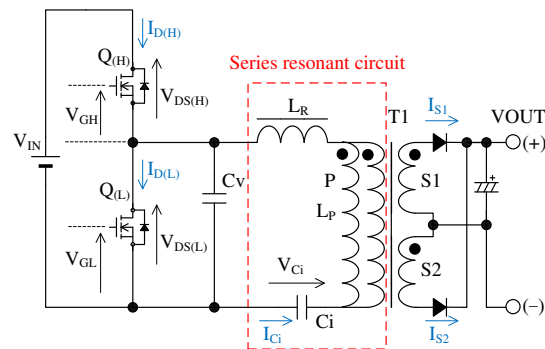
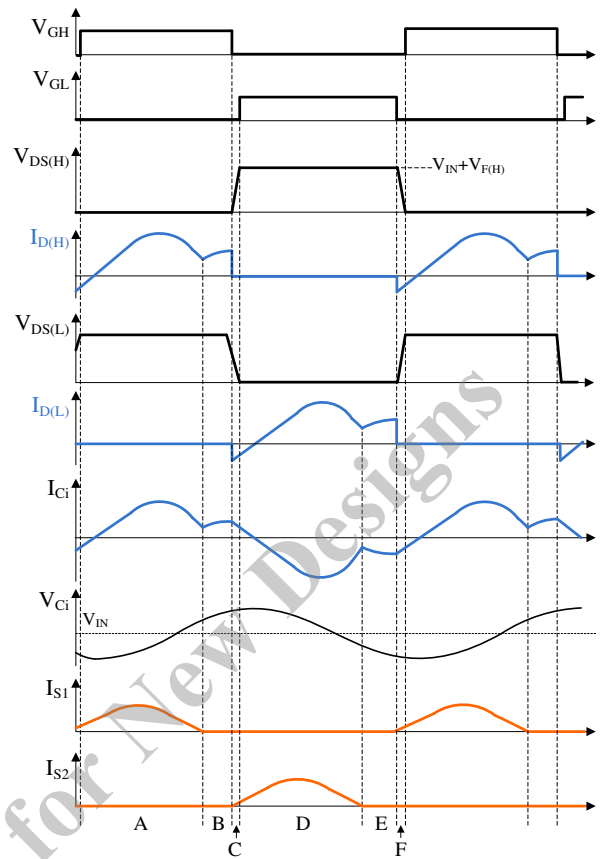

Figure 8-3. Current Resonant Power Supply Circuit
Figure 8-4. The Basic Operation Waveforms of Current Resonant Power Supply
Figure 8-3 shows the circuit of a current resonant power supply. The basic configuration of the current resonant power supply is a half-bridge converter. The switching device Q(H) and Q(L) are connected in series with VIN. The series resonant circuit and the voltage resonant capacitor Cv are connected in parallel with Q(L). The series resonant circuit is comprised of a resonant inductor LR, a primary winding P of a transformer T1 and a current resonant capacitor Ci.
In the resonant transformer T1, the coupling between primary winding and secondary winding is designed to be poor so that the leakage inductance increases. By using it as LR, the series resonant circuit can be down sized. The dotted mark in T1 shows the winding polarity, the secondary windings S1 and S2 are connected so that the polarities are set to the same position shown in Figure 8-3, and the winding numbers of each other are equal.
Figure 8-4 shows the basic operation waveform of current resonant power supply (see Figure 8-3 about the symbol in Figure 8-4). The current resonant waveforms in normal operation are divided a period A to a period F. The current resonant power supply operates in the each period as follows.